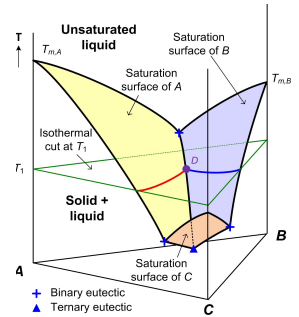
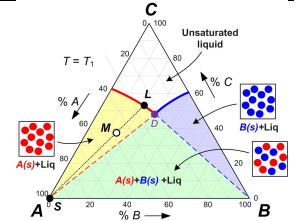

Figure 2: Three-component SLE Diagram
Figure 3: Isothermal Cut at T_1 for three-component SLE Diagram
For a three-component system at constant pressure, the SLE phase diagram resembles a triangular prism, shown in Figure 2. The 3D diagram is constructed by combining the T-x diagrams of the three binary systems (A-B, A-C, and B-C) and filling the interior with the solubility surfaces for each of the three components. The three surfaces meet at the ternary eutectic point, at which all three components are saturated. Since identifying various solid-liquid regions below the saturation surfaces is difficult, it is more convenient to consider isothermal cuts, indicated by the blue triangle in Figure 2. A series of such cuts can be taken at different temperatures for the three-dimensional figure.
The isothermal cut at temperature T_1 is shown in Figure 3. Since this temperature is above the melting point of component C, there is no region associated with solid C. Instead a region of unsaturated liquid is present at the C-rich portion of the diagram. Solids of pure A exist in equilibrium with a liquid phase in the yellow wedge-shaped region. A mixture at point M in this region will phase-split according to tie-line SL into a liquid phase and pure solid A. If the composition of a mixture lies within the lavender wedge-shaped region, pure B solid will be obtained at this temperature. Inside the green triangle, both solids A and B will crystallize out of the solution. The solid mixture is in equilibrium with a liquid phase composition at the double saturation point (D). In the prism in Figure 2, point D is part of the trough connecting the AB binary eutectic and ternary eutectic. The location of the double saturation point – and hence the region boundaries in the isothermal cut – change with temperature.